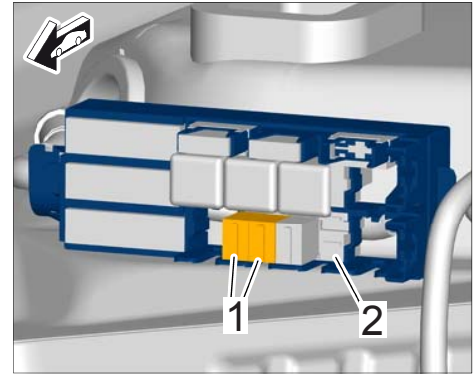

Figure 1
- Remove both engine-compartment blower relays ⇒ *Figure 1 -2-* from the relay carrier ⇒ *Figure 1 -2-*.